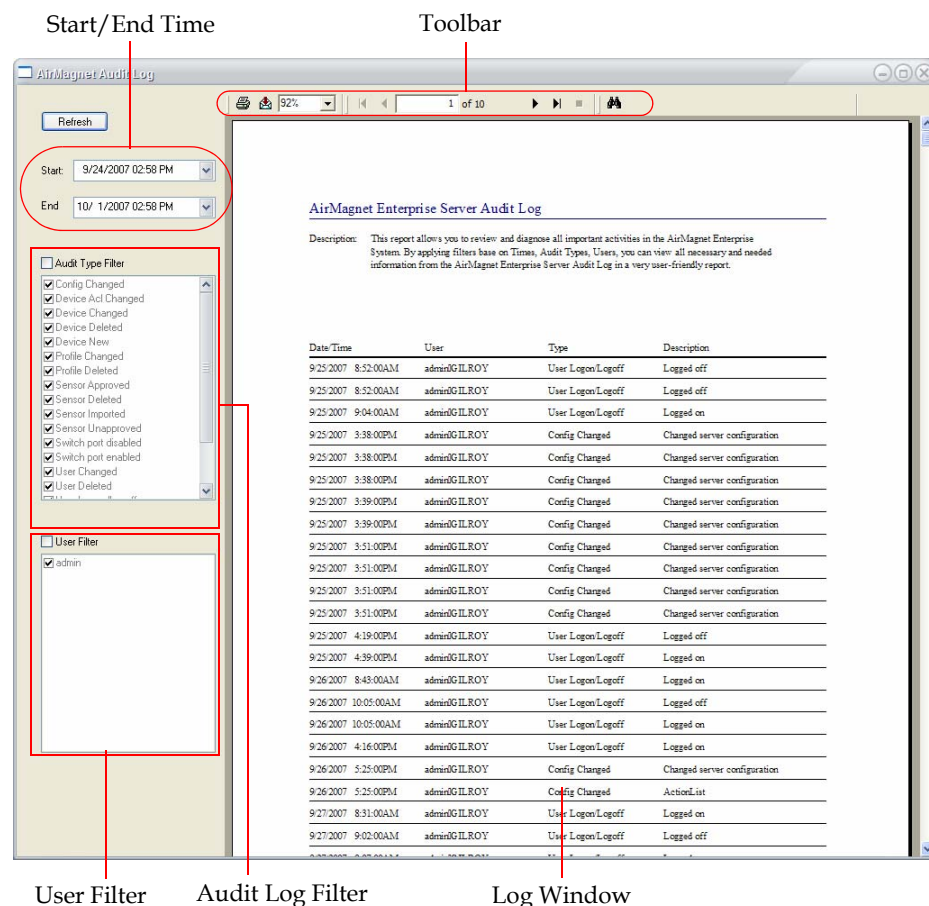

Figure 4-23: AirMagnet Audit Log screen
- 1) Click **Manage>Audit Log....** The AirMagnet Audit Log screen appears. See Figure 4-23.